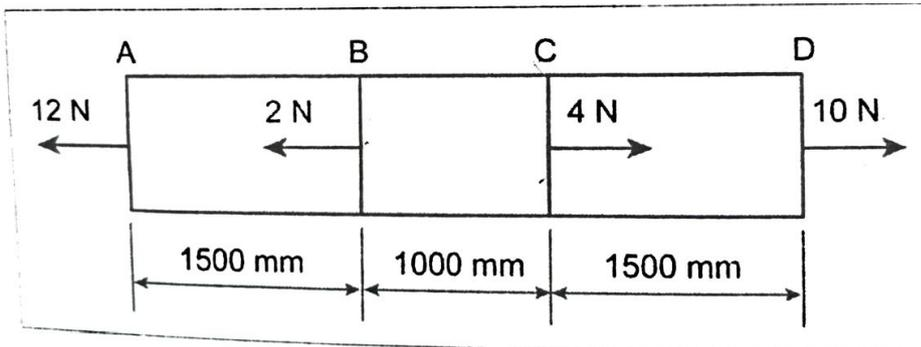

Figure-3.
- 5 A steel rod 50 mm diameter is subjected to a force as shown in **Figure-3**. Find the elongation of the rod and take $E = 2 \times 10^5 \text{ N/mm}^2$.